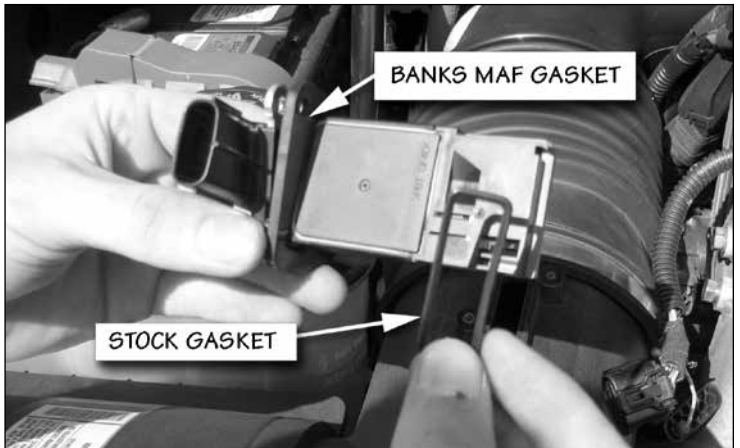

Figure 6- Remove Stock Air Filter Minder & Air Filter Minder Gasket
12. From the stock air box, remove the stock air filter Minder. Make sure to remove the stock air filter Minder's rubber grommet as well. See **Figure 6**.